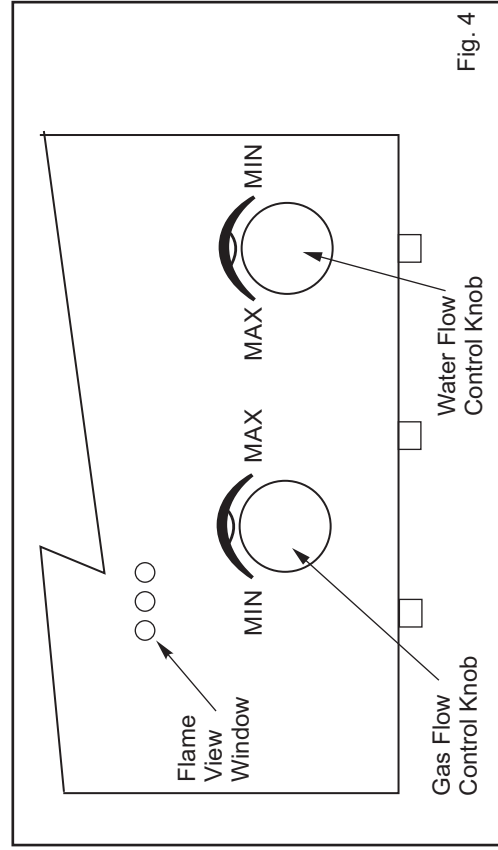

Fig. 4
- This appliance is fitted with a battery powered electronic ignition device for lighting the burners. Two 1,5v batteries are required - Type D (R20). (See Fig. 4)
- To light the burners first ensure the ignition batteries are in place and correctly orientated regarding the +/- indicators on the appliance and the batteries (See Fig.4). Set the gas flow control on the front panel to the medium position. Turn on the water flow control valve. This will ignite the